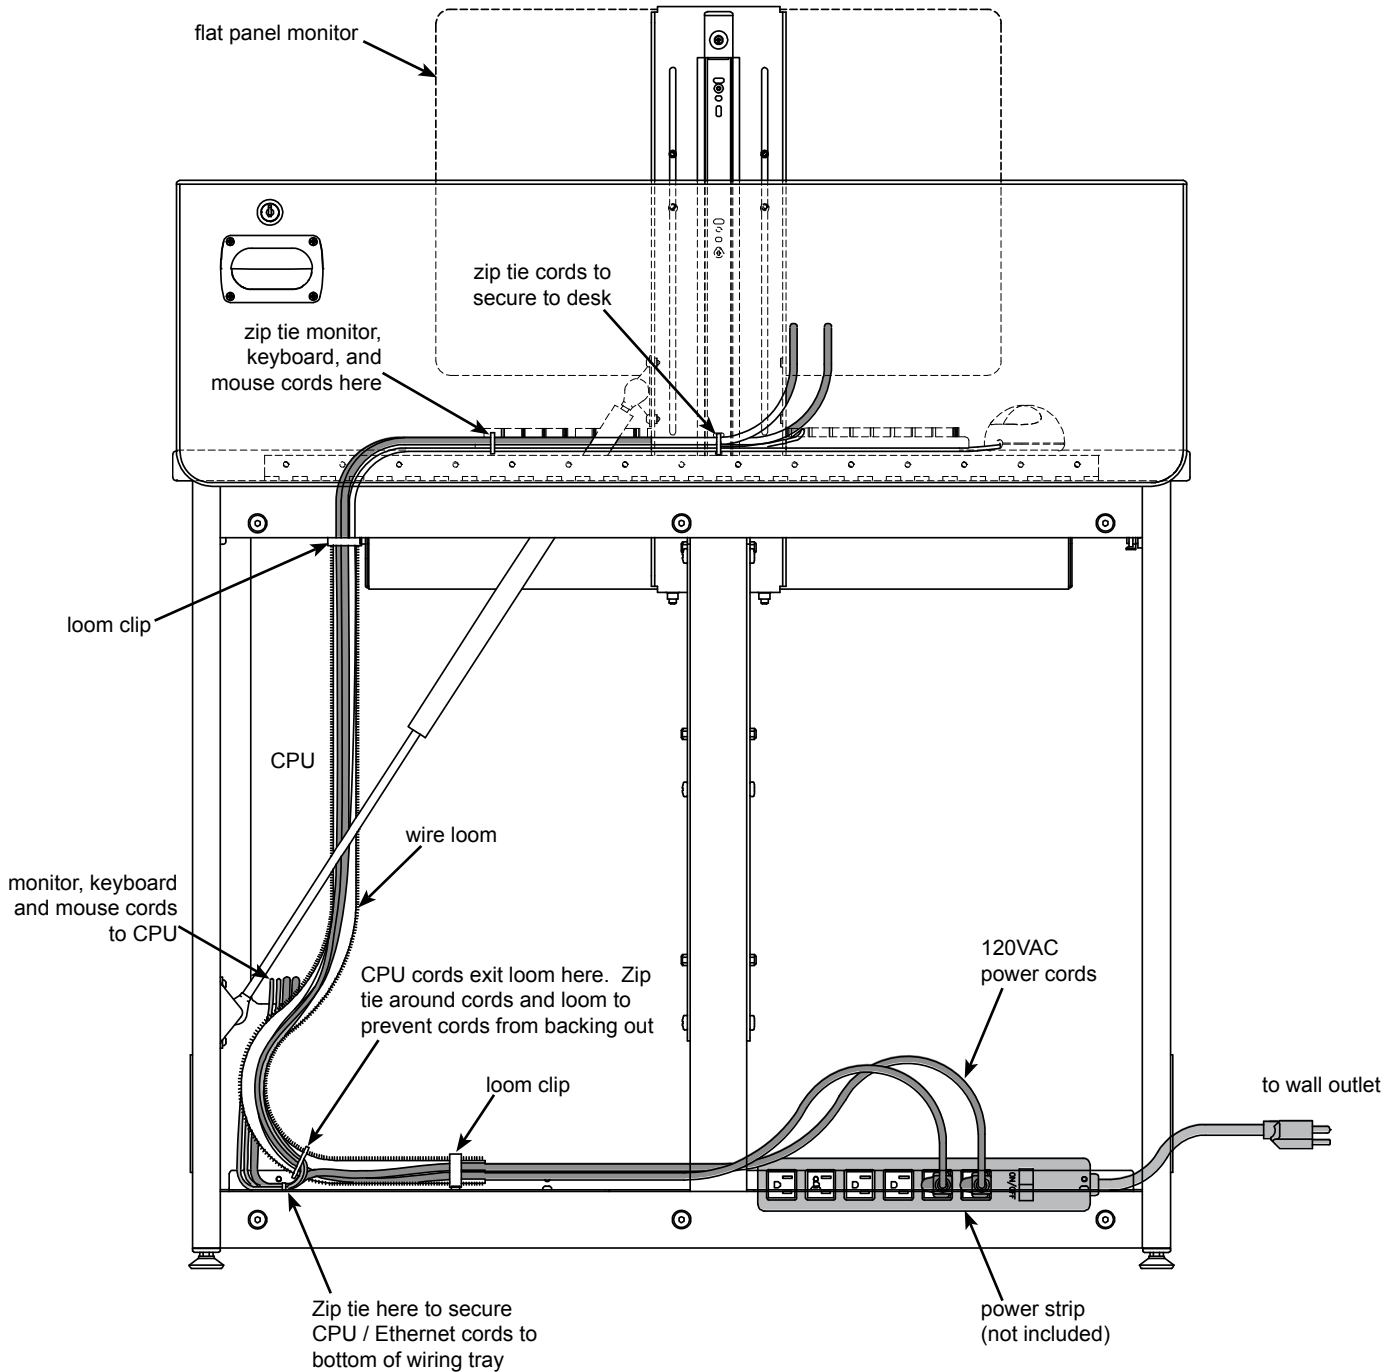

Figure 6D
4. With the loom removed, feed the monitor, keyboard, and mouse cords through the sliced opening of the loom to the bottom of the desk as shown. **Figure 6D.**
7. Secure the CPU cords to the bottom of the loom by attaching a zip tie around the loom directly above where the CPU cords exit the loom. This will prevent the cords from backing out. **Figure 6D.**